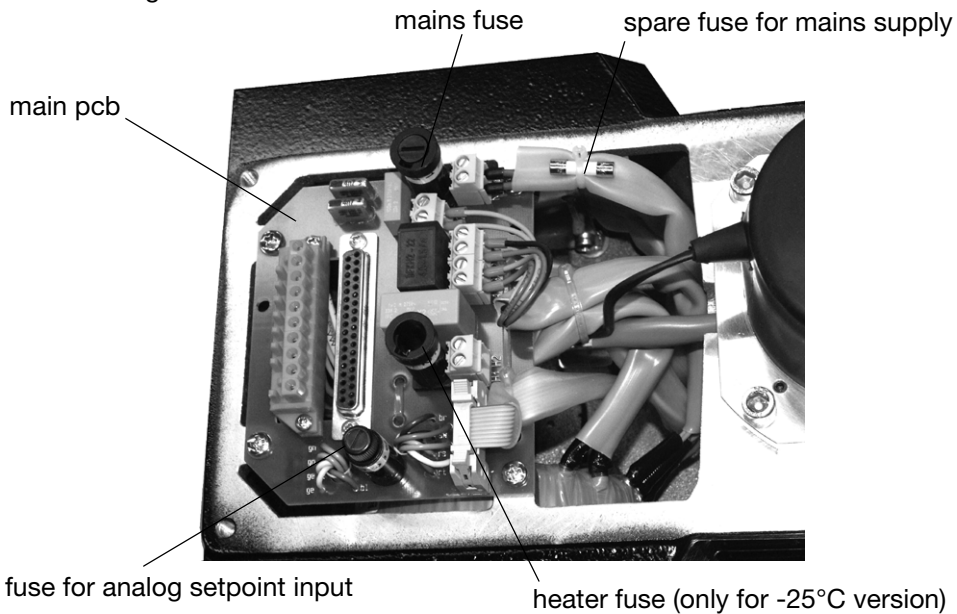

Fig. 20:
- check pins at pin carrier; see fig. 20 for pin reference